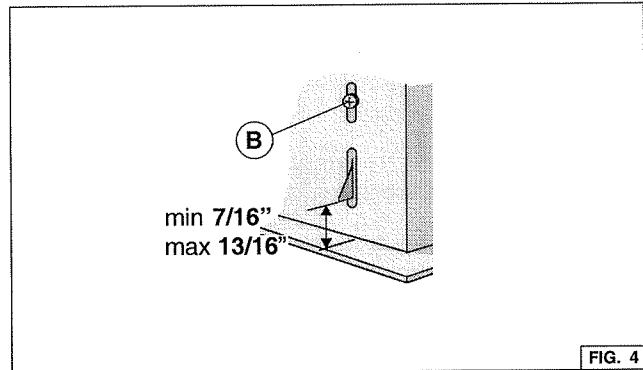

FIG. 4
3. Adjust the position of the clasp side spring by means of the proper "B" screw according to the thickness of the bored panel to which it is going to be anchored (Fig. 4).